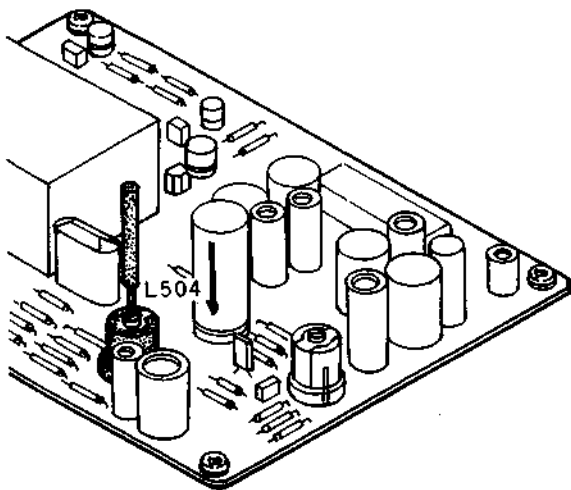

Fig. 4-2-3 Stereo Distortion Adjustment
- (2) Check the distortion in each channel. Adjust L504, the switching transformer, in the MPX Decoder section with a non-metallic alignment tool to obtain minimum distortion. See Fig. 4-2-3.